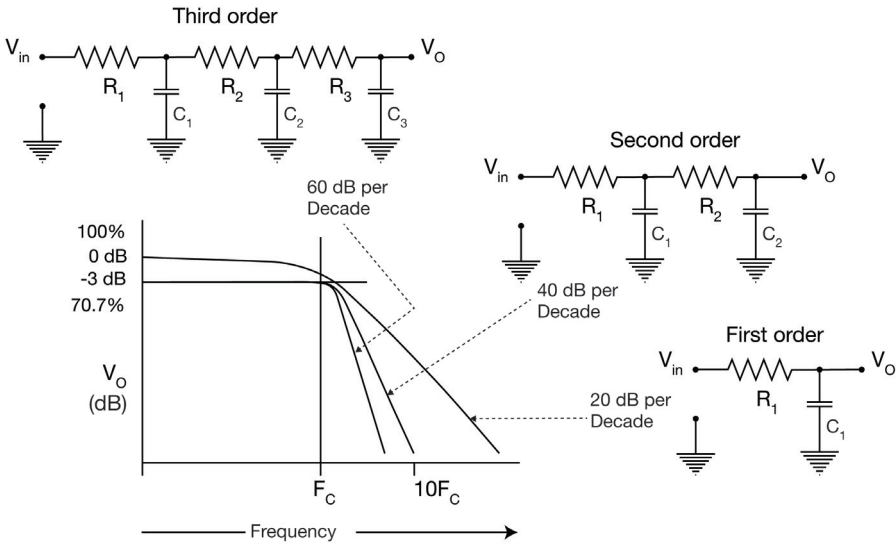
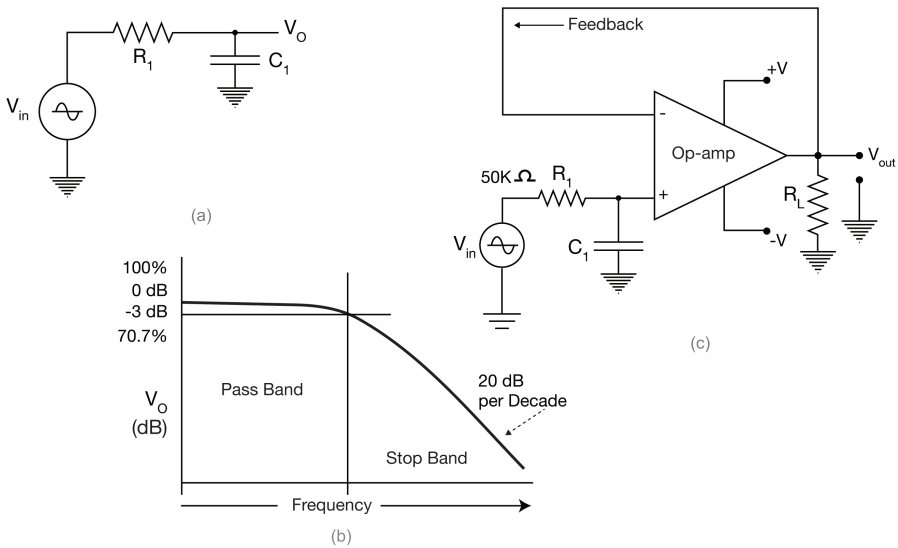

Figure 19.15 First-, second-, and third-order low-pass filters.
Figure 19.16 (a) Low-pass filter circuit. (b) Low-pass filter response curve. (c) First-order low-pass active filter circuit.
Figure 19.15 shows first-order, second-order, and third-order low-pass filters, along with the roll-off curve for each. The **single-stage filter** always has a roll-off rate of 20 dB per **decade**. This is true for low-pass filters and high-pass filters. Decades will be discussed in a following section.
A **first-order** low-pass filter's amplitude response is essentially constant up to the circuit's cutoff frequency. The range of frequencies in the region of constant amplitude (see **Figure 19.16**) is called the **pass-band**. As the input signal frequency exceeds the low-pass filter's cutoff frequency, the dB amplitude response decreases linearly as the frequency increases logarithmically. The frequency range above the filter's cutoff frequency is called the **stop band**. The following equation is used to calculate the cutoff frequency for all first-order filters:
Refer back to **Figure 19.16(c)** and note that an active **low-pass filter** is nothing more than a passive low-pass filter with an added voltage-follower op-amp. The high op-amp input impedance prevents the filter from being loaded and the op-amp output can drive a significant load. Also note in **Figure 19.15** the roll-off values of 20 dB per decade for first-order low-pass filters.
Calculate the cutoff frequency of a low-pass active filter circuit shown in **Figure 19.16**. Assume that the value of $R_1 = 10 \text{ k}\Omega$ and $C_1 = 1 \text{ }\mu\text{F}$.
Calculate the cutoff frequency of an active low-pass filter circuit shown in **Figure 19.16**. Assume that the value of $R = 50 \text{ k}\Omega$ and $C = 0.05 \text{ }\mu\text{F}$.
20. Referring to the first-order low-pass active filter of **Figure 19.16**, as the order of the filter increases, the dB loss per decade, beyond the 3 dB point will _____.